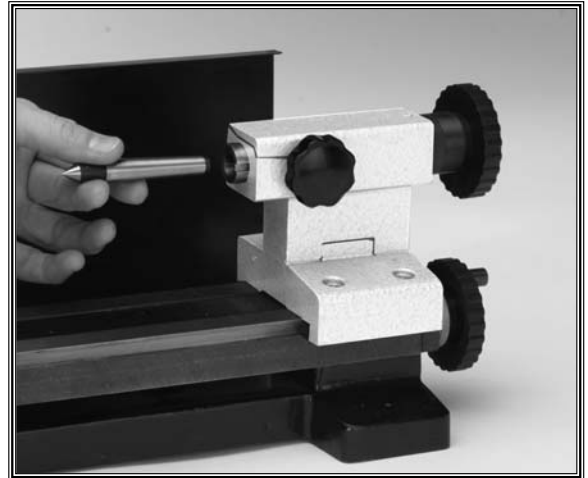

Figure 14. Inserting dead center.
2. Insert the dead center into the quill opening. Matching tapers provide the locking action (see Figure 14).